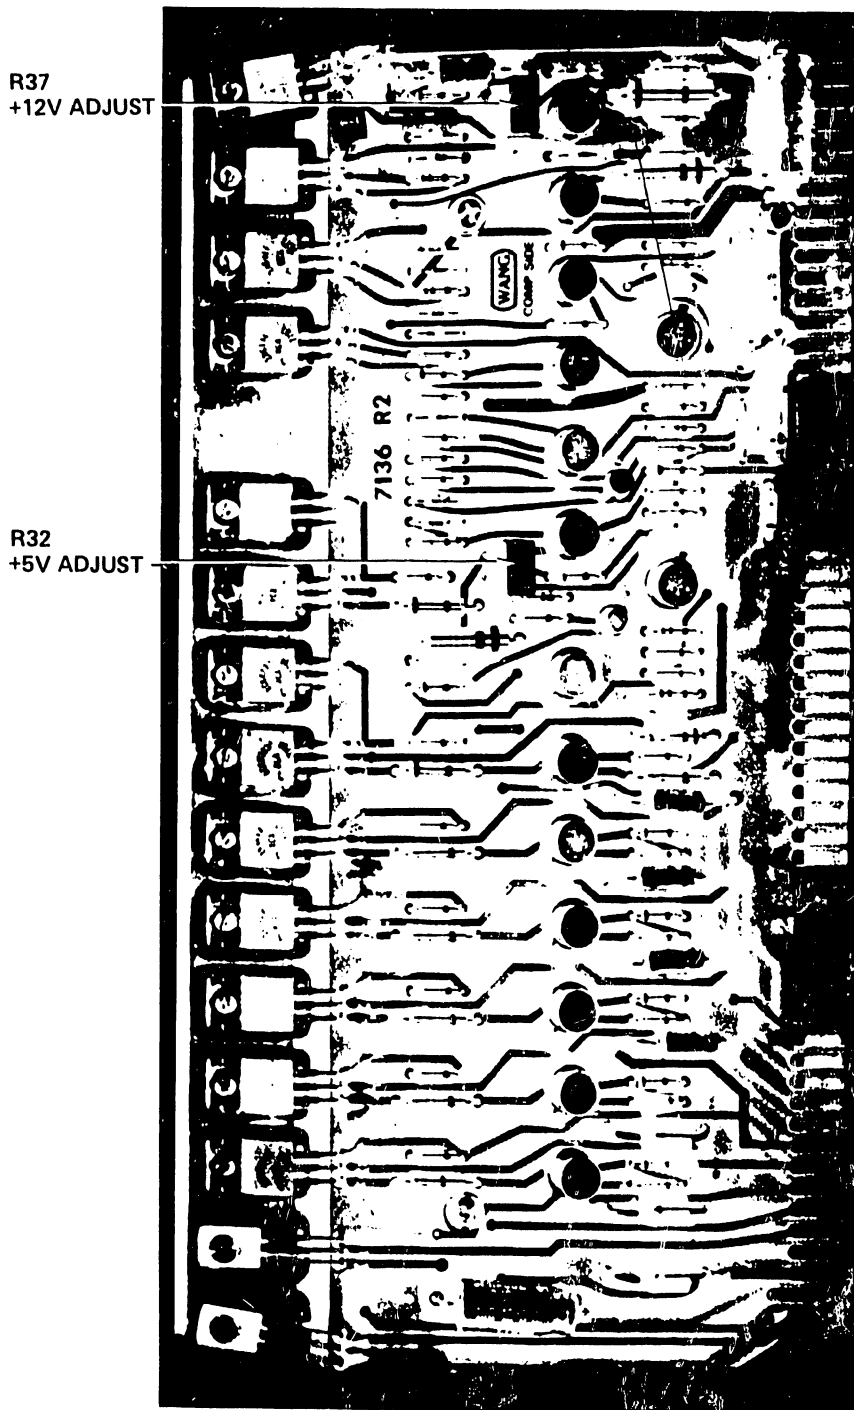

Figure 5-3. 7136 PCB – Voltage Adjustments
2. Check for $+5 \pm .1V$ VRSW at connector pin 12₁. Adjust this voltage to the correct level by R-32. See Figures 5-3 and 5-4.
3. Check for +12 to +12.5 VRSW at connector pins A₁ and 1₁. Adjust to the correct level by R-37. See Figures 5-3 and 5-4.